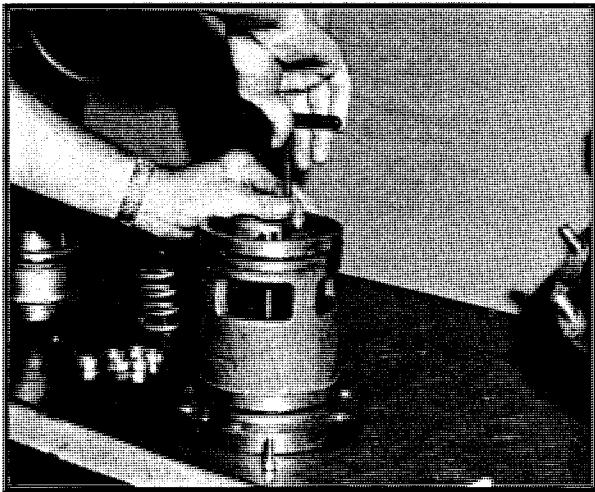

Figure 3-10 Removing Four Screws and O-Rings
13. Remove cylinder (Item 16) from cylinder head (Item 20) by removing four (4) screws (Item 22) and O-rings (Item 23). Reference Figures 3-10 and 3-11.